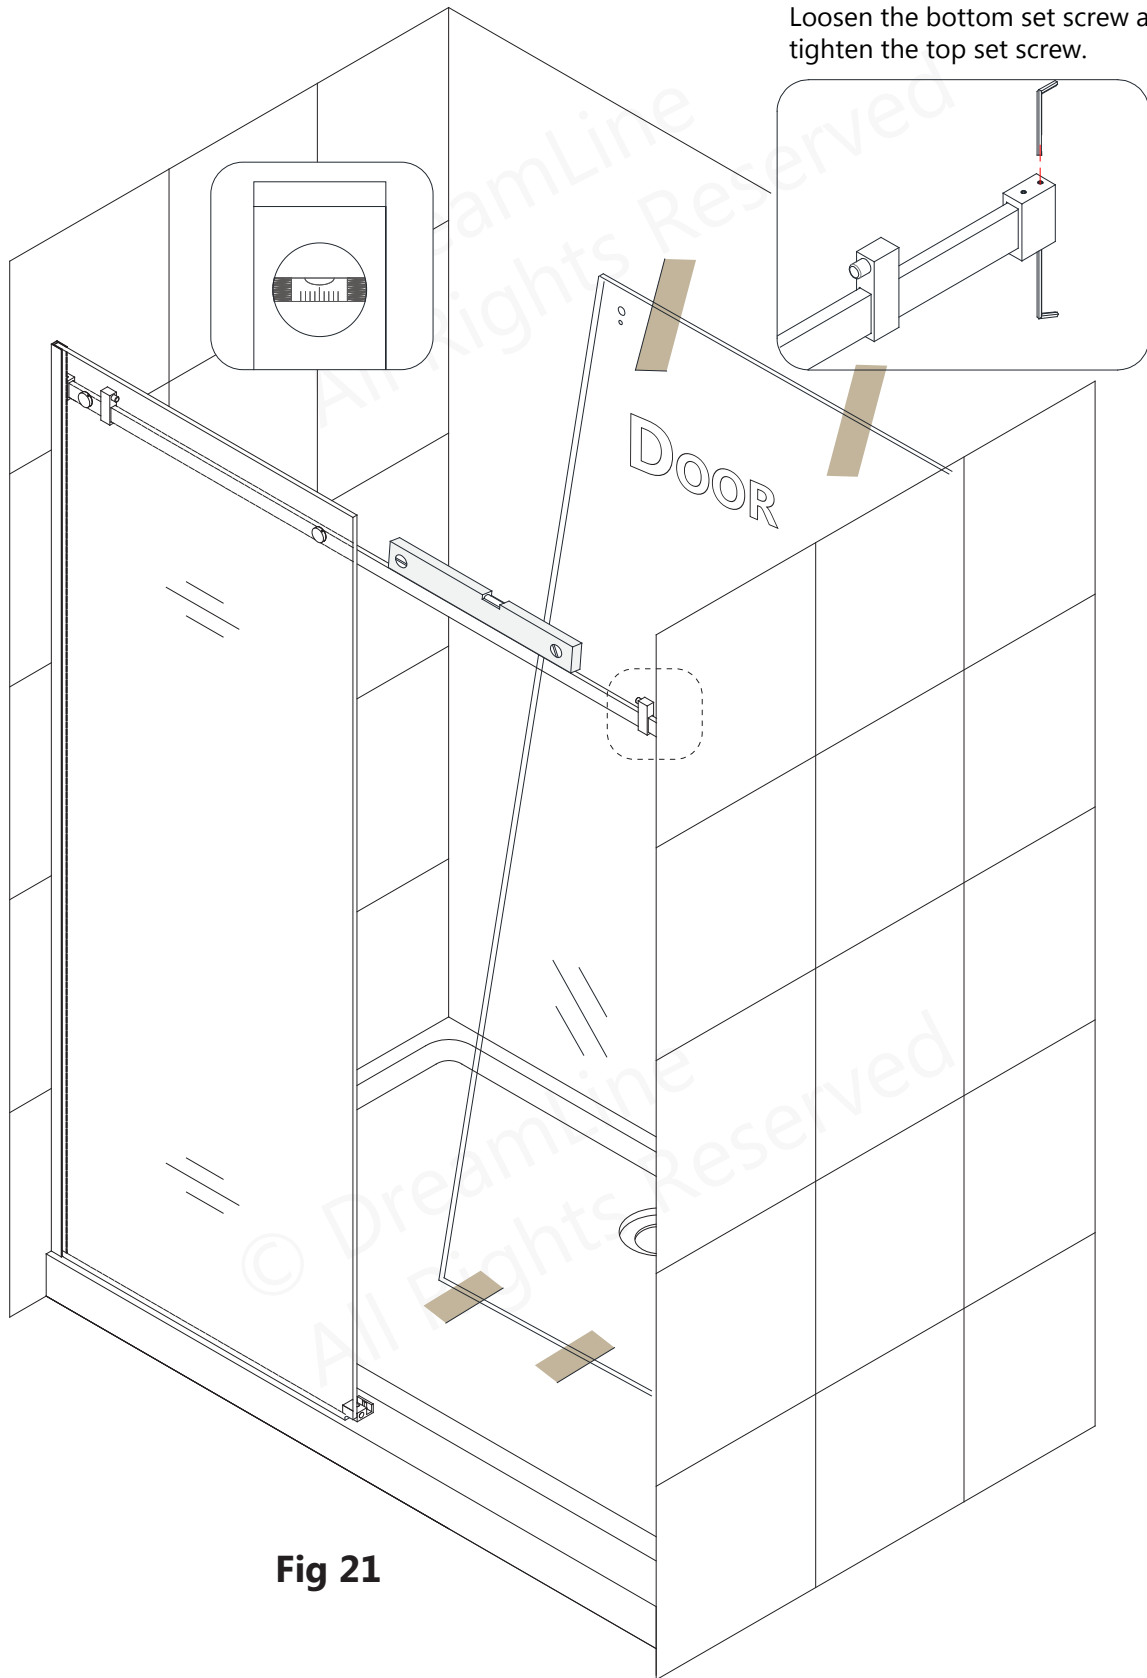

Fig 21
21. Re-check the **Guide Rail (#04)** for level and if necessary, adjust with the set screws on the **Guide Rail Bracket (#06)**. (**Fig 21**)